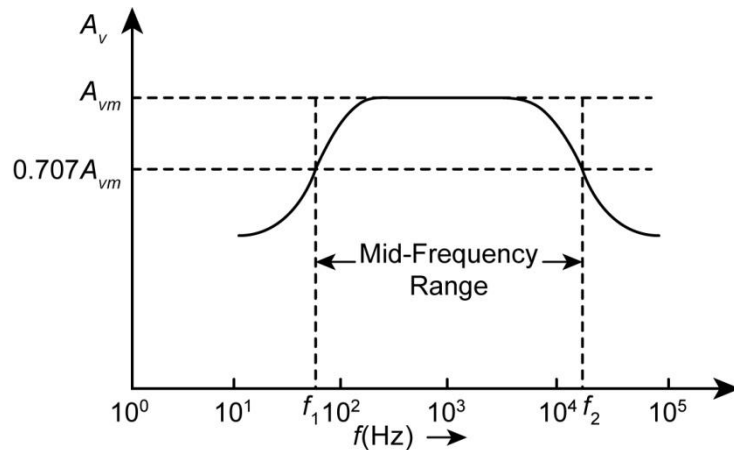

Fig. 10.6: Frequency response curve of an RC-coupled amplifier.
Fig. 10.6 shows a frequency response curve of a typical RC-coupled amplifier. You will observe that the gain is constant only for a limited band of frequencies. This range of frequencies is called the mid-frequency range and the gain is called mid-band gain, A_{vm} . On both sides of the mid-frequency range, the gain decreases. For very low and for very high frequencies, the gain of the amplifier reduces significantly.
Frequency response curve of an RC-coupled amplifier of Fig. 10.6, shows that the gain remains constant only for a limited band of frequencies. On both the low-frequency side as well as on the high frequency side, the gain falls. Now, an important question arises – where exactly should we fix the frequency limits (of input signal) within which the amplifier will have almost constant gain and may be called a good amplifier? The limit is set at those frequencies at which the voltage gain reduces to 70.7% of the maximum gain A_{vm} . These frequencies are known as the cut-off frequencies of the amplifier. These frequencies are marked in Fig. 10.6. The frequency f_1 is the lower cut off frequency and frequency f_2 is the upper cut-off frequency. The difference of the two frequencies, that is $(f_2 - f_1)$, is called the bandwidth (BW) of the amplifier. The mid-frequency range of the amplifier is from f_1 to f_2 .